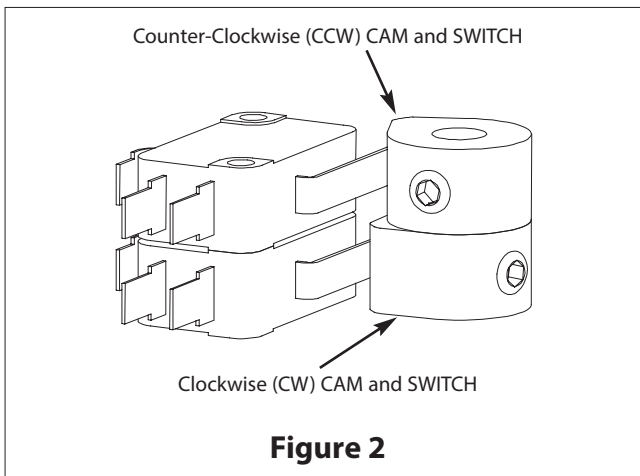

Figure 2
1. Loosen the set screw in the cam using a 1/16" hex wrench. Clockwise for the bottom cam and counter-clockwise for the next cam up from the bottom cam as indicated in (Figure 2).